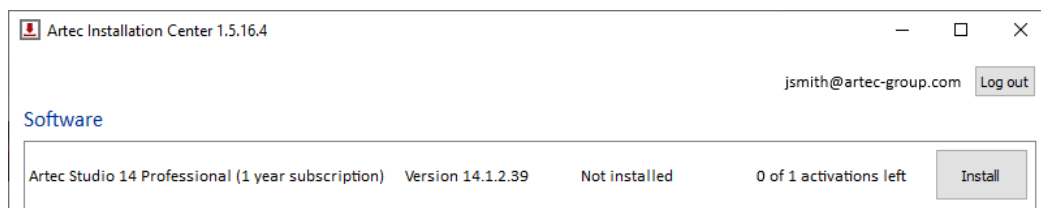

Figure 21: Artec Installation Center is ready to install Artec Studio.
- Through Artec Installation Center (either during the installation process or by clicking *Install* in the application, as Figure 21 shows)